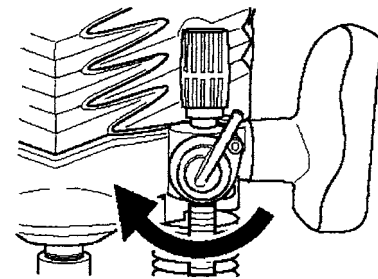

Fig. 2
② Fine adjustment mechanism (Fig. 2)